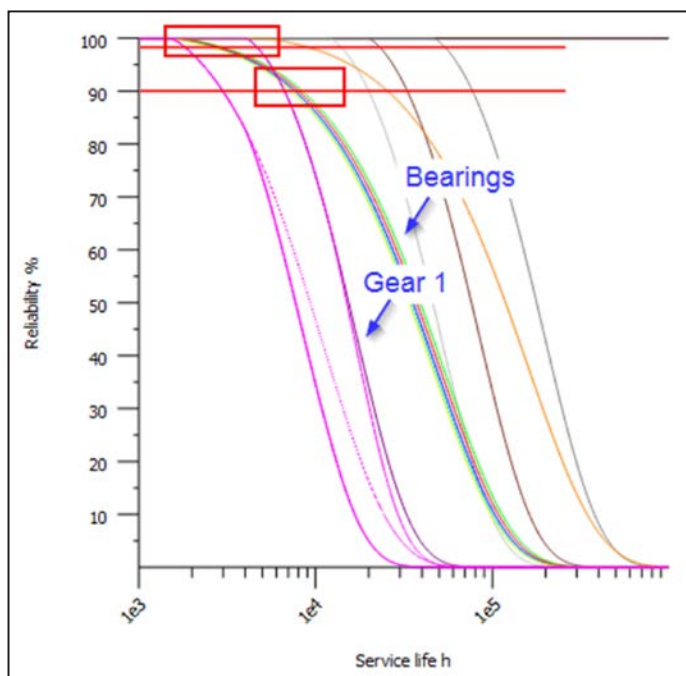

Figure 2 Calculated reliability curves.
However, looking at the reliability graph in Figure 2, the situation is different. The left-most first curve of individual components is the one for gear 1, confirming the previous assessment. But this is only true for relatively low probabilities; the lower horizontal red line is on the 90% probability level. Here, gear 1 has indeed the shortest lifetime. Still, this is above the required 5,000h design life — which is marked with the vertical grey line.
- Optimized lubricant delivery (Fig. 2).
Fig. 2 Optimized lubricant delivery. The picture compares manual lubrication with automatic. The pink area is the optimal amount of lubrication inside the bearing. As you can see, the automatic lubrication is maintaining the right amount of lubrication over time. Image courtesy of Simatec Inc.